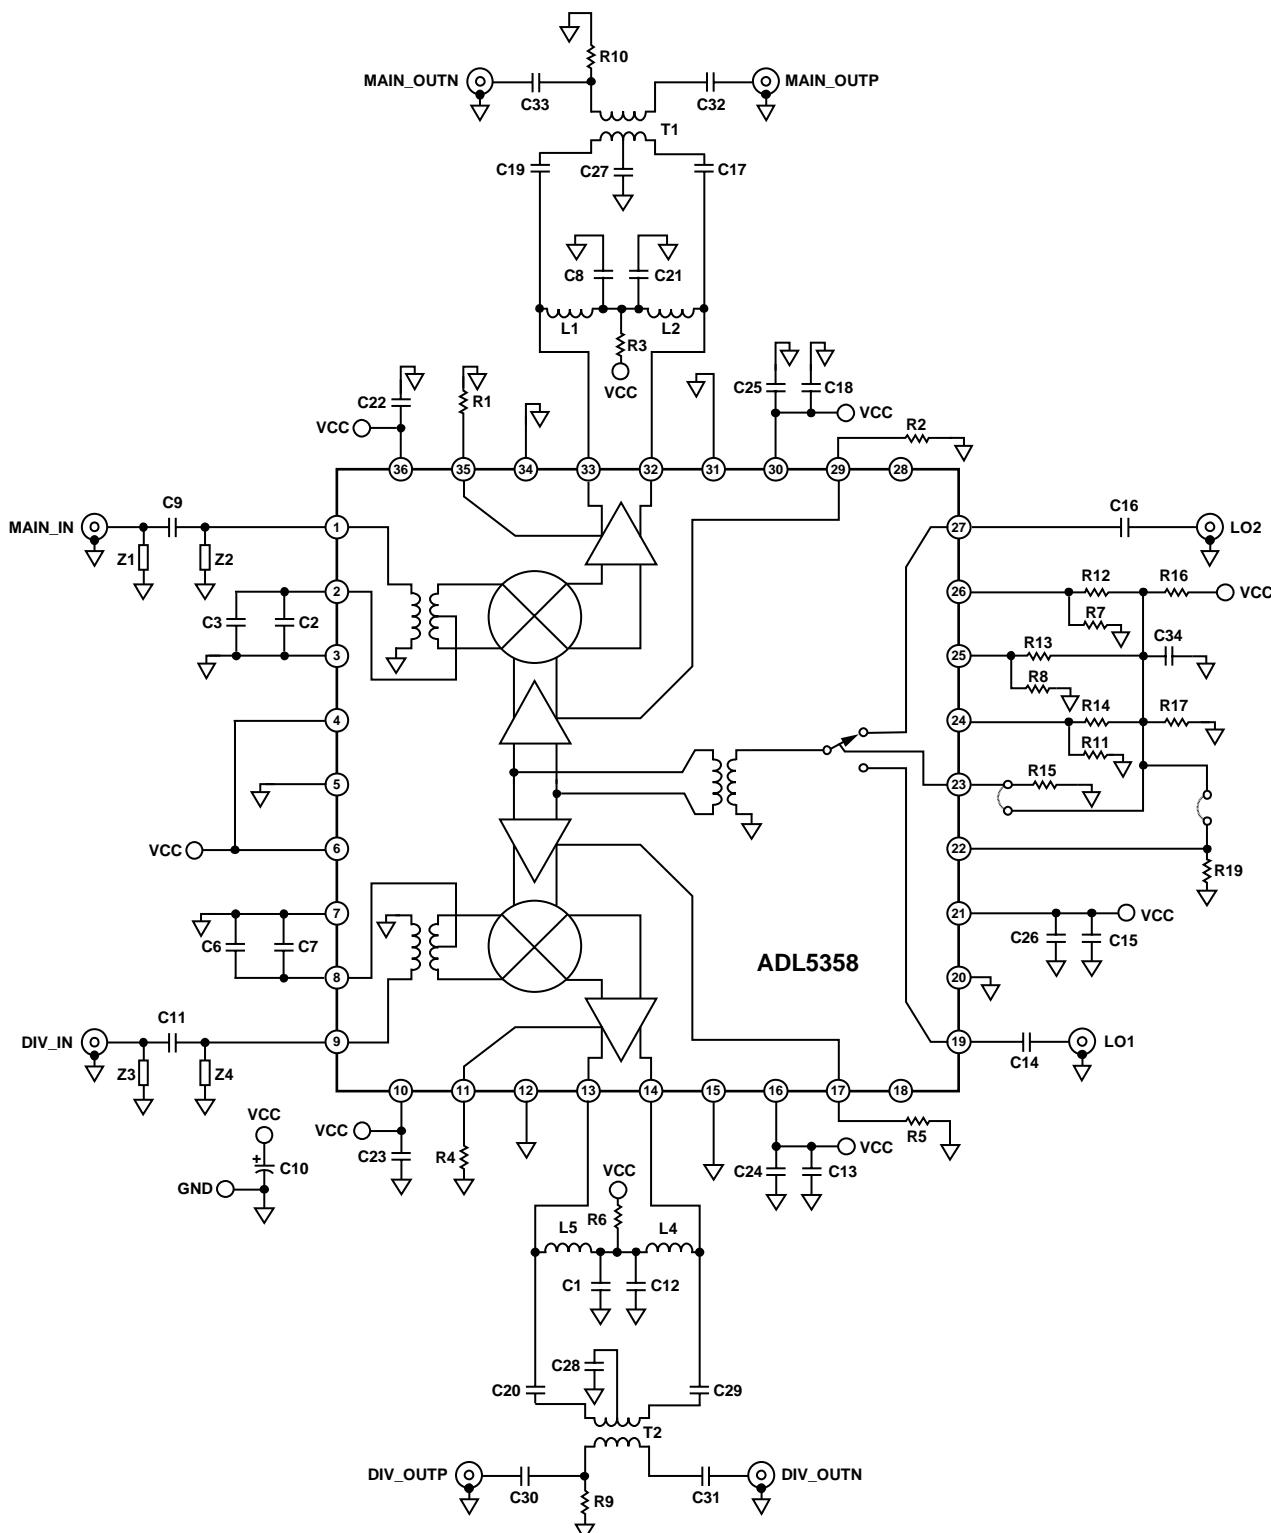

Figure 53. Typical Application Circuit
The ADL5358 mixer is designed to downconvert radio frequencies (RF) primarily between 500 MHz and 1700 MHz to lower intermediate frequencies (IF) between 30 MHz and 450 MHz. Figure 53 depicts the basic connections of the mixer. It is recommended to ac-couple the RF and LO input ports to prevent non-zero dc voltages from damaging the RF balun or LO input circuit. The RFIN matching network consists of a series 8 pF capacitor to provide the optimized RF input return loss for the desired frequency band.
The real part of the output impedance is approximately  $200\ \Omega$ , as seen in Figure 30, which matches many commonly used SAW filters without the need for a transformer. This results in a voltage conversion gain that is approximately 6 dB higher than the power conversion gain, as shown in Table 3. When a  $50\ \Omega$  output impedance is needed, use a 4:1 impedance transformer, as shown in Figure 53.